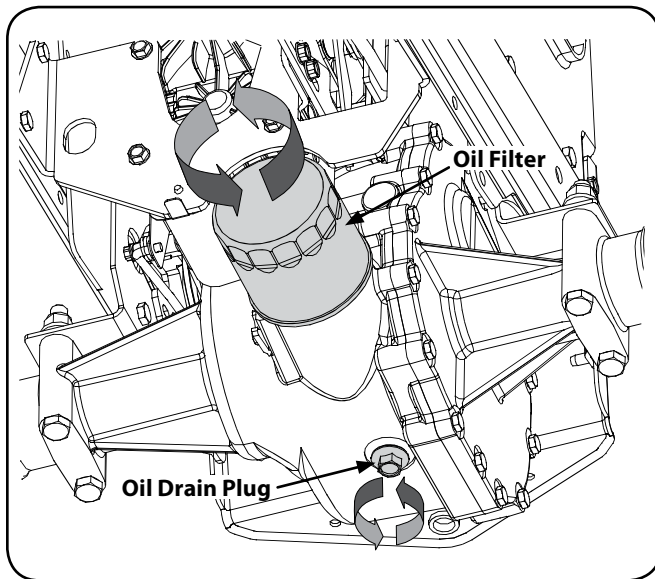

Figure 6-7
3. Remove the drain plug and allow the transmission oil to drain into a clean container having a capacity of more than six quarts. Reinstall the drain plug. See Figure 6-7.
4. Clean around the base of the transmission oil filter and remove the filter by turning it counterclockwise. Refer to Figure 6-7.